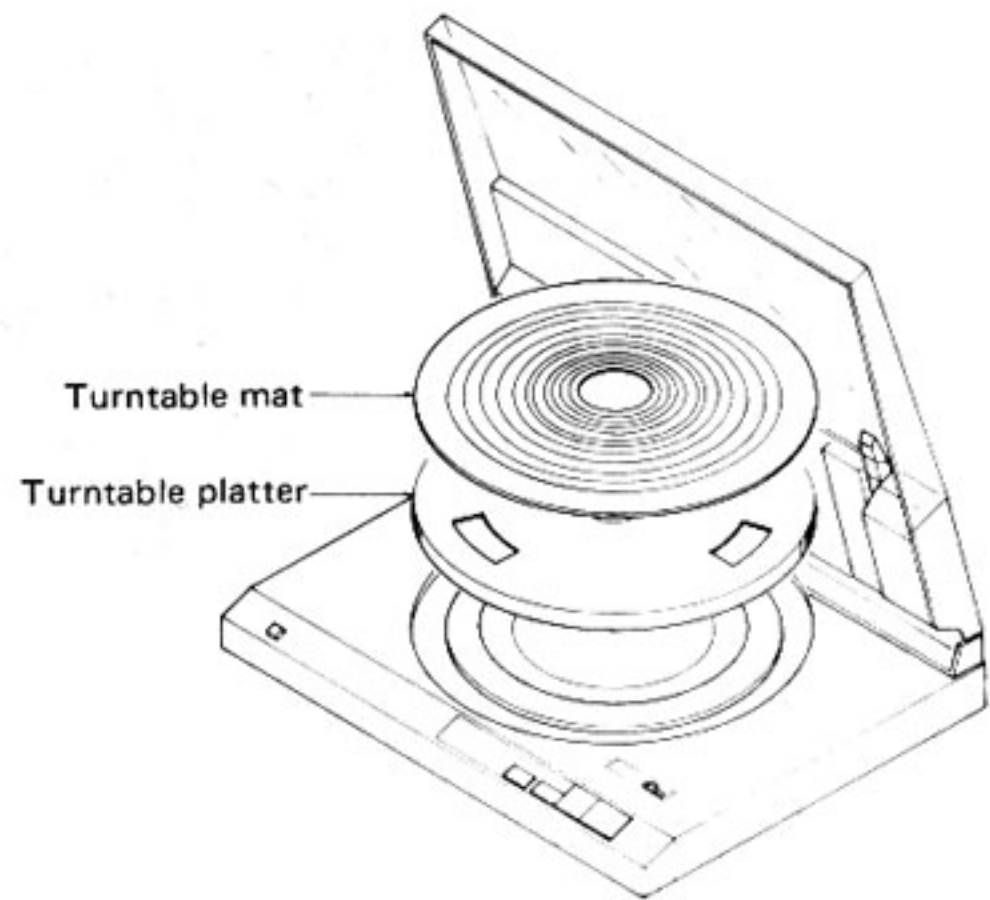

Fig. 2
2. Remove the turntable mat and lift the turntable platter. (Fig. 2)
**Note:** (1) When removing the turntable platter, it is not necessary to remove the 45 r.p.m. adaptor.